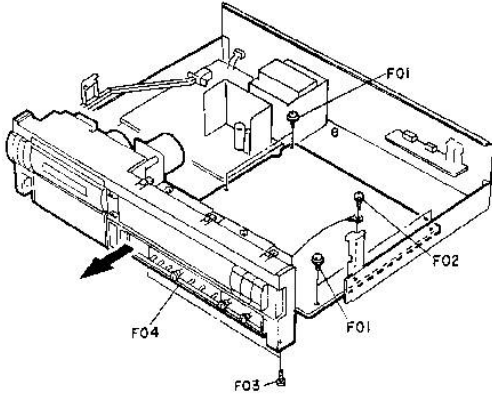
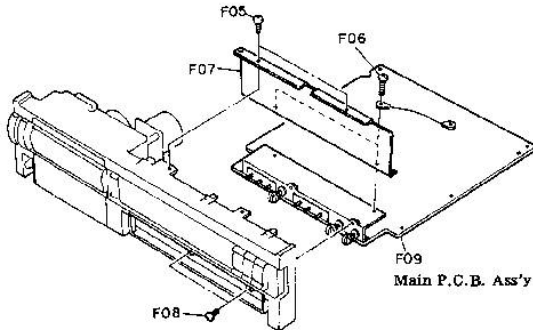

Fig. 2.5.1
Fig. 2.5.2
Refer to Figs. 2.5.1 and 2.5.2.
- (1) Remove the Front Panel Ass'y referring to item 2.4.
- (2) Loosen screws F01 (4 pcs.), F02 (1 pce.) and F03 (2 pcs.). See Fig. 2.5.1.
- (3) Slide out F04 (Front Chassis Ass'y & Main P.C.B. Ass'y) forward.
- (4) Loosen screws F05 (2 pcs.) and F06 (2 pcs.), and remove F07 (Shield Plate). See Fig. 2.5.2.
- (5) Loosen screws F08 (2 pcs.) and remove F09 (Main P.C.B. Ass'y).